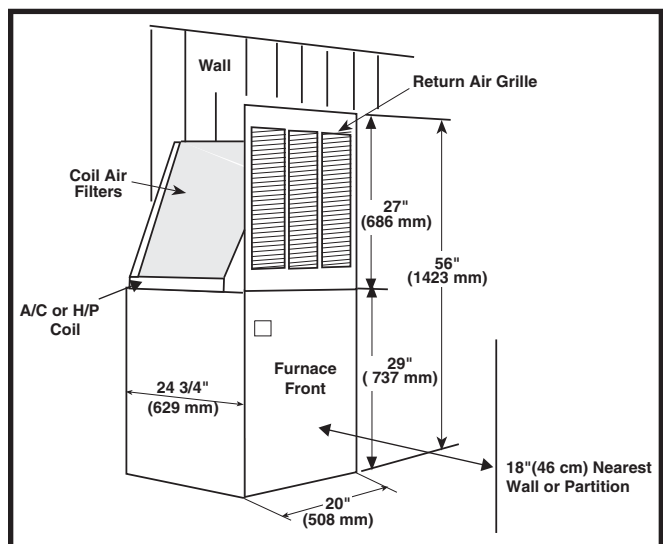

Figure 10. Alcove Installation
1. Cut alcove rough openings to minimum dimensions shown in Figure 10 \(page 8\). **NOTE:** The height may increase depending on the size of the coil compartment.